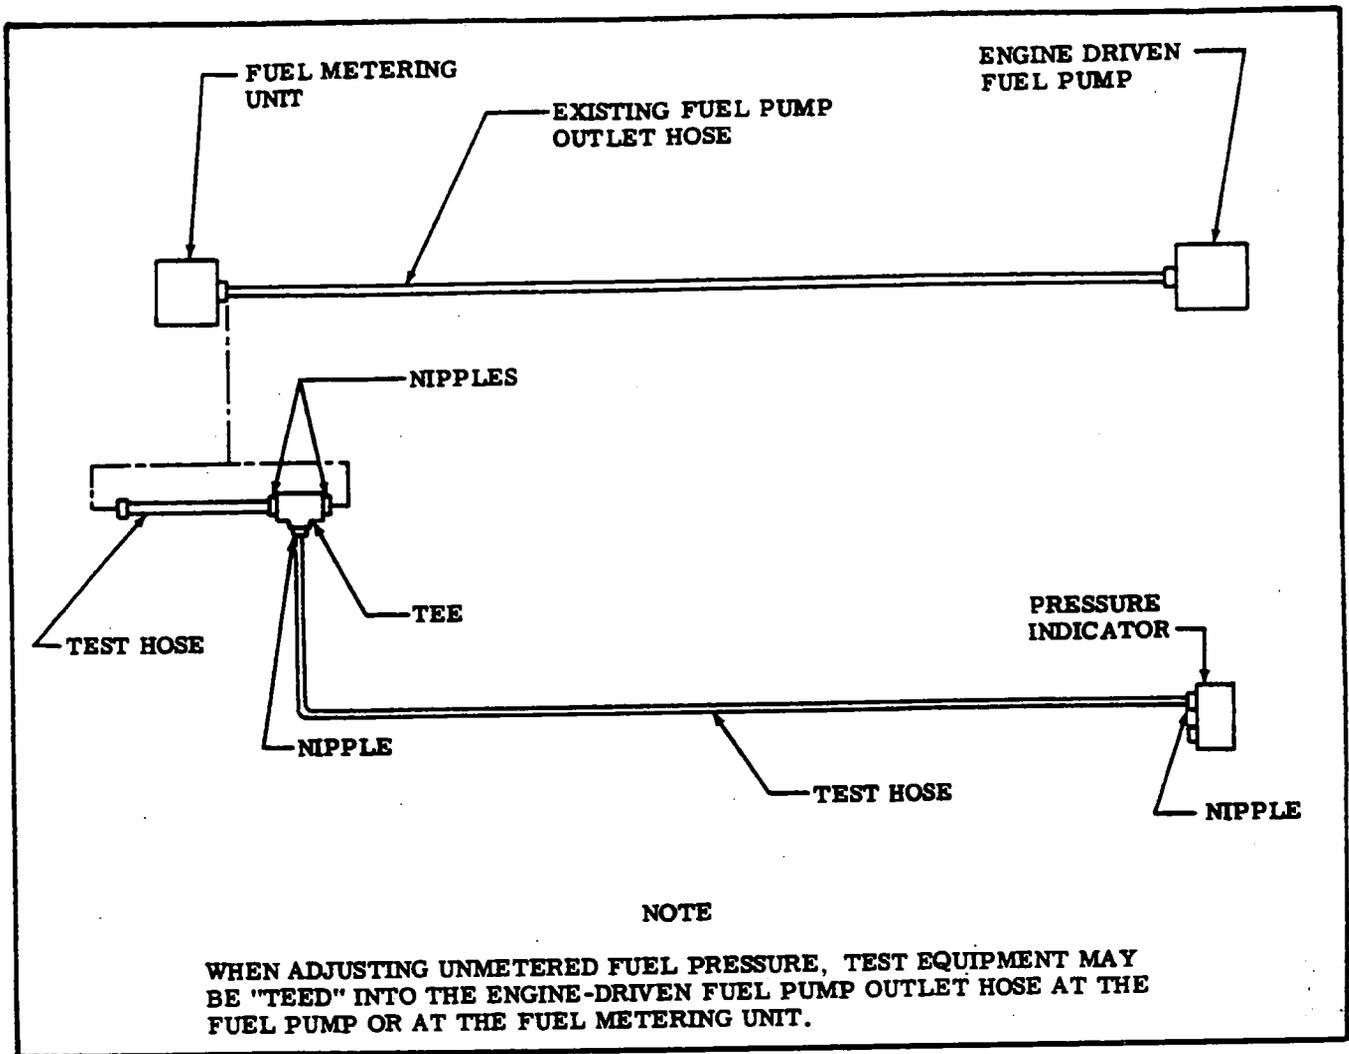

Figure 12-8. Fuel Injection Pump Adjustment Test Harness
- b. Disconnect existing engine-driven fuel pump pressure hose at fuel metering unit and connect the test gage hose and fittings into fuel injection system as shown in figure 12-8. Test gage **MUST** be vented to atmosphere.